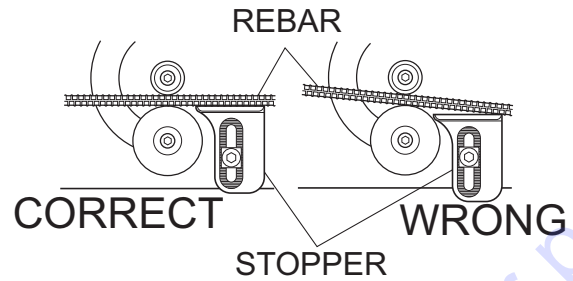

Figure 3. Stopper Position
7. Position the stopper so that rebar to be bent is parallel to the front of the stopper and tighten the rebar securely in place. If the rebar is not parallel to the front, the bending angle will be incorrect. See Figure 3.